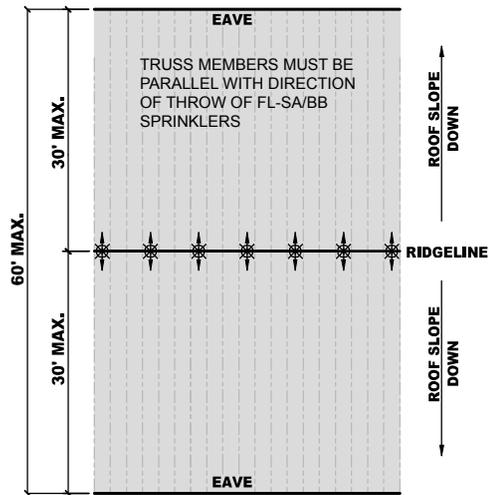

FIGURE 3A
- When utilizing this option, Model FL-SA/BB sprinklers are used to protect the entire width of the attic space. The span of the attic is measured along the floor (or ceiling of floor below) of the attic space from the peak to the intersection of the top chord and bottom chord of the roof trusses. See Figure 3A. The span is twice the longer of the two measured half spans.